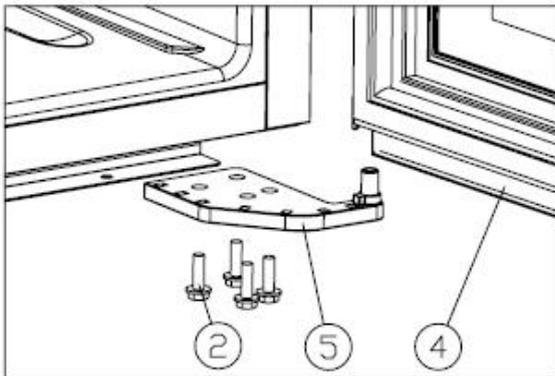

Figure 2
- ✧ Unscrew the M5\*16screws②, dismantle the right lower hinge⑤.[Figure 2]